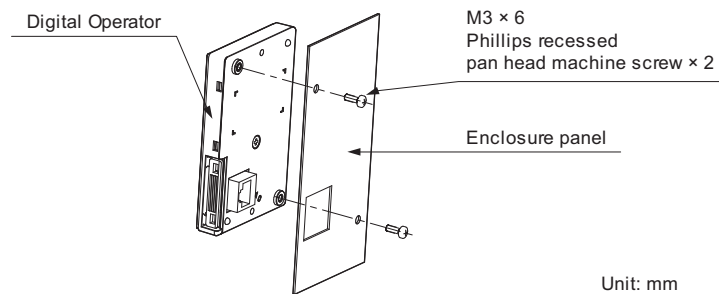

Figure 2.7 External/Face-Mount Installation
2. Position the LED monitor so the display faces outwards, and mount it to the enclosure panel as shown in Figure 2.7.